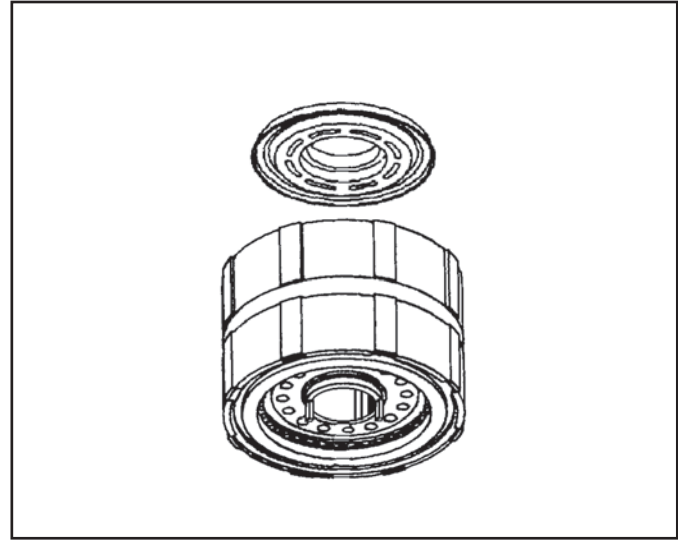

Figure 100
3. Carefully apply approximately 5 psi of air pressure to the clutch housing feed orifice and blow the piston out of its bore or gently tap the drum on the bench until the piston comes out of its bore (See Figure 100).